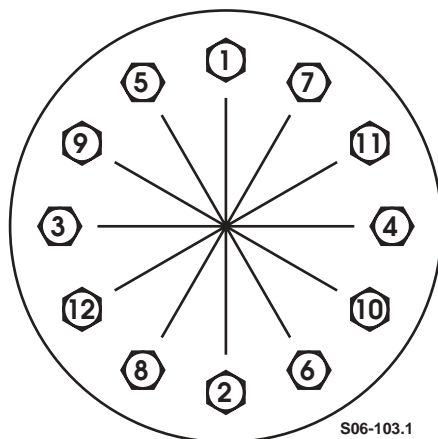

Figure 6-15: Locknut Tightening Sequence
16. Preliminarily tighten locknuts to 85 lb-ft (115 N•m) in tightening sequence shown (Figure 6-15).